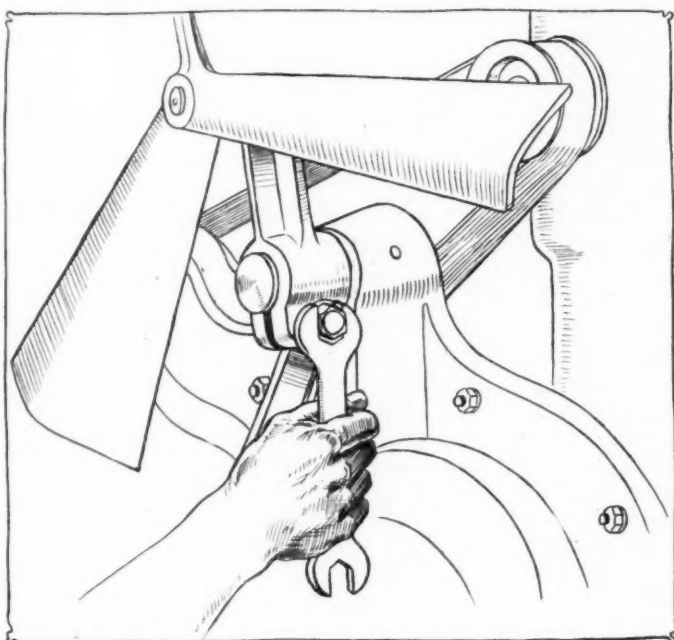

Fig. 5—Nut loosened to adjust tension on Cole fan belt
(2) To adjust the fan bracket so that the belt will not slip at low speeds, it is necessary to loosen the nut shown in Fig. 5. Swing the bracket up so as to increase the tension on the belt and then tighten the nut again.